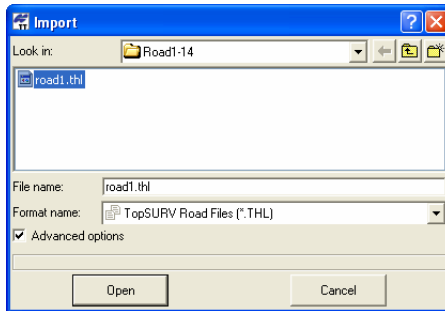

Figure 3-33. Import Road File
4. Click **Open** to import the file (Figure 3-33).